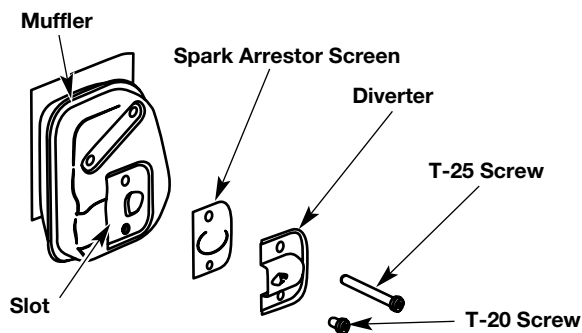

Fig. 56
2. With a flat blade screwdriver or Torx T-20 bit and a T-25 bit, remove the screws attaching the spark arrestor cover to the muffler (Fig. 56).